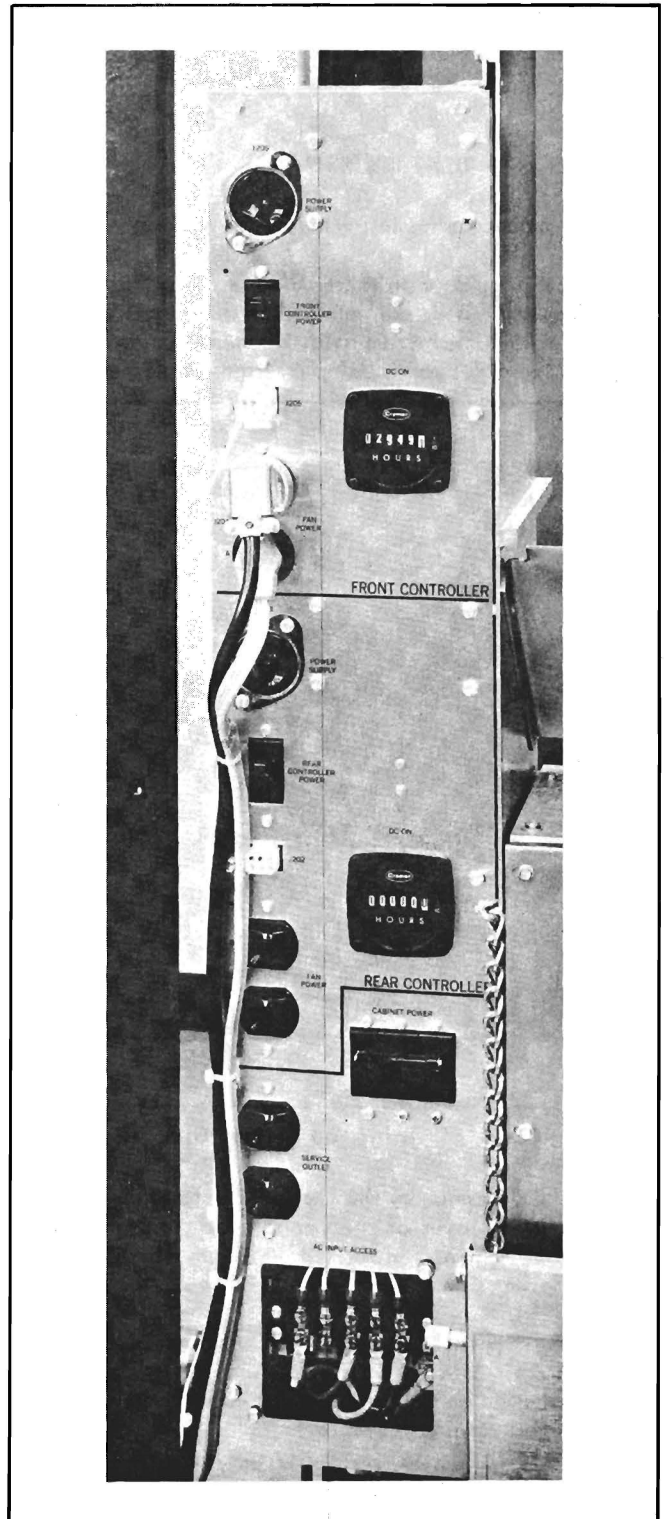

Figure 25. Controller Cabinet Power Panel
5. See Figure 25. Set the appropriate CONTROLLER POWER circuit breaker to ON. Now the controller fans will come on and the power supply AC lamp will light.
This is the procedure for turning off the power of a disk controller (see Figure 25):